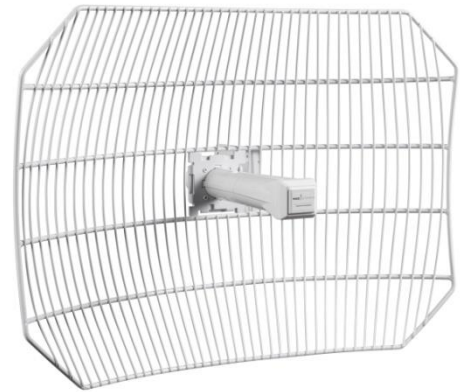

Figure 2 MND5-G-27 MagiNode™
- 1- MND5-G-27 (Figure 2): Operates in the 5GHz ISM band. It has a 27 dBi Antenna, is the workhorse of the system. Used for the longest hops.